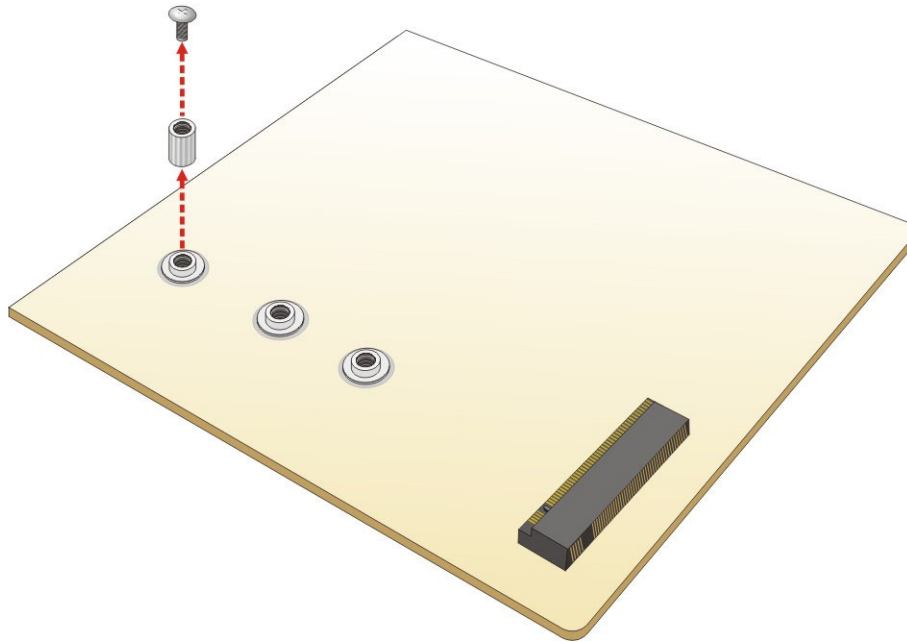

Figure 4-5: Removing the M.2 Module Retention Screw and Standoff
Step 2: Remove the retention screw and standoff as shown in **Figure 4-5**.